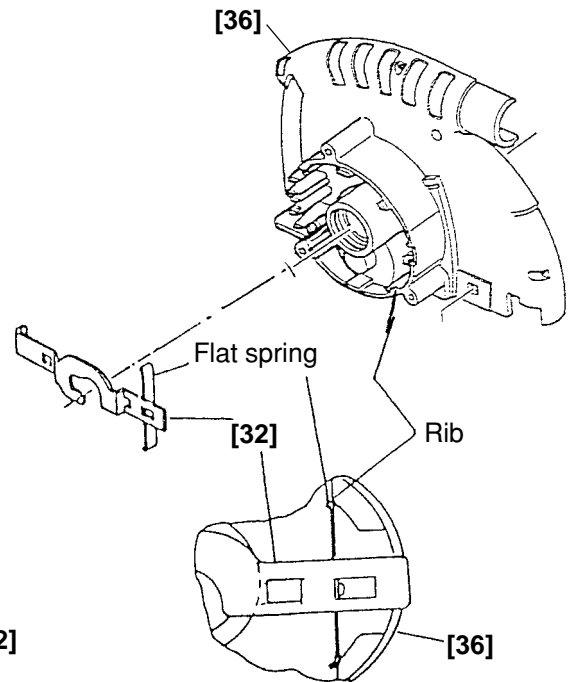

Fig. 2
(3) Reassembly of the Lock Lever [32] (See Fig. 2.):
- B. Carefully ensure that both ends of the flat spring on the Lock Lever [32] are properly supported inside the ribs of the Gear Cover [36], as illustrated in Fig. 2.